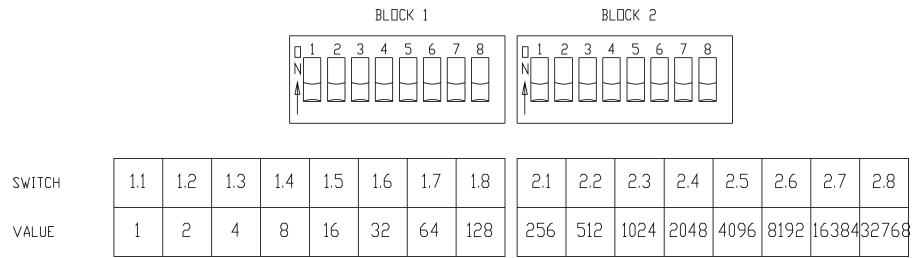

Figure 3.7: Address Switch Chart
- Referencing Figure 3.7 Address Switch Chart, use the following formula.